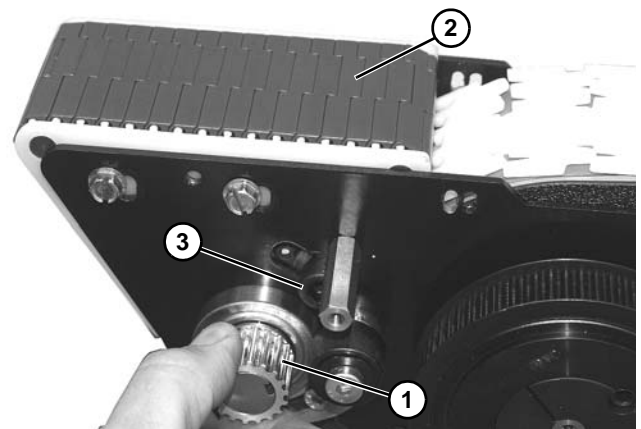

Figure 180
10. Rotate drive shaft (**Figure 180, item 1**) to verify tightness of belt (**Figure 180, item 2**). Belt should turn freely. Loosen idler socket head screw (**Figure 180, item 3**) and adjust, if necessary.